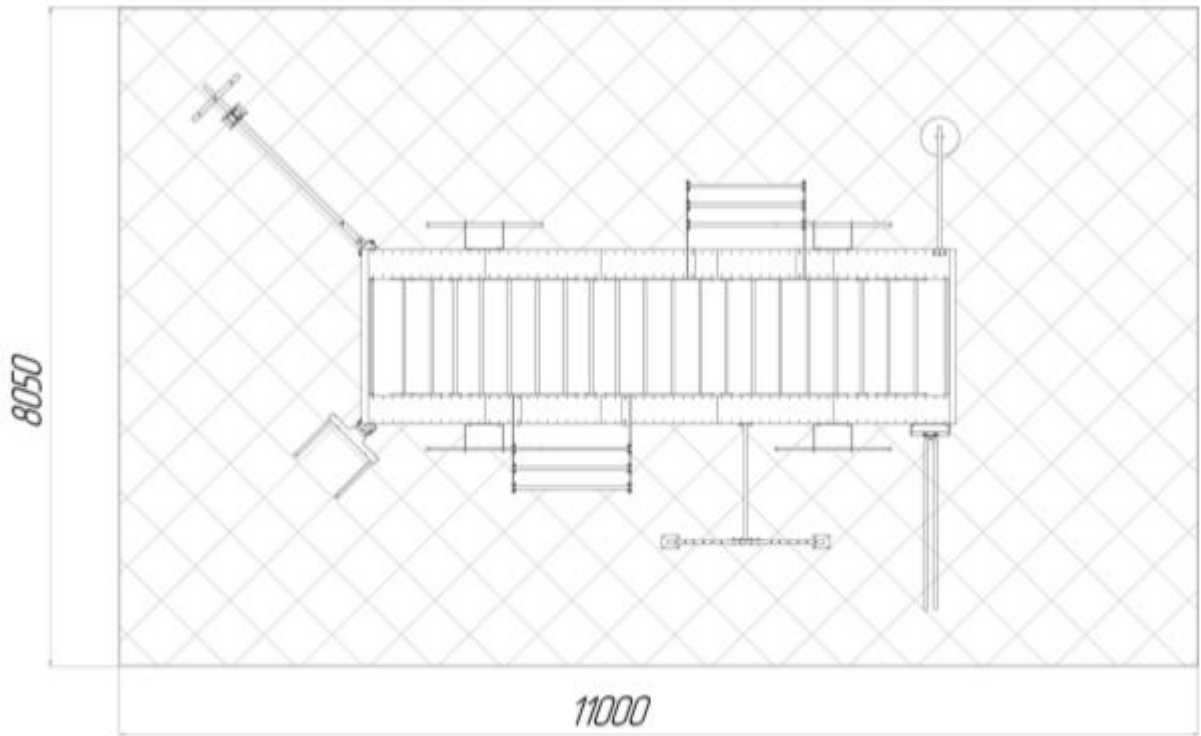

Fig.7
- 3.14 Put shock absorbing material on the surface under the assembled complex (not included in delivery). Protrusion of the items position 2 on outer sides must be at least 2500 mm. Total protection cover on the plan and safety zones are 11000 x 8050 mm (see fig.7). Other types of cover material and foundation shall conform to EN 16630:2015.